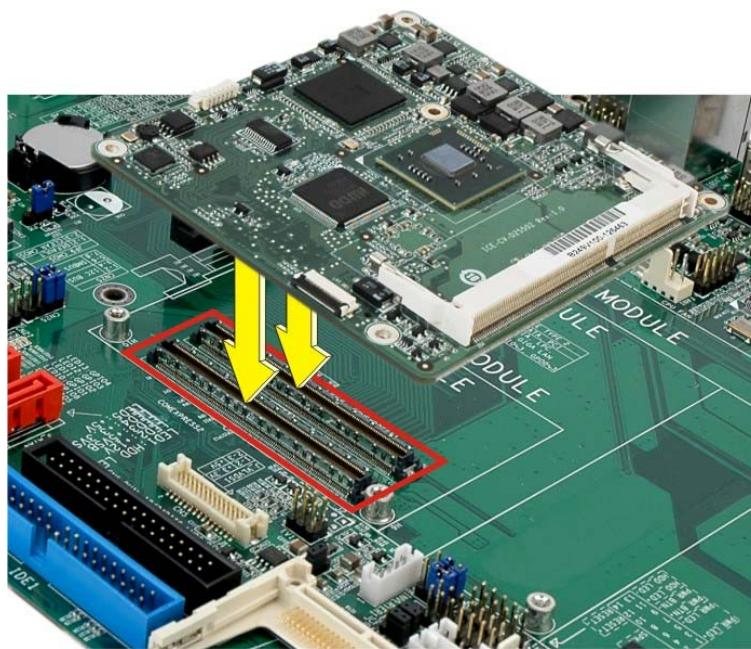

Figure 4-2: Connect the COM Express Connectors
Step 1: Align the two COM Express connectors on the reverse side of ICE-CV-D25502/N26002 with the corresponding connectors on the baseboard. Gently push the COM Express module down to ensure the connectors are properly connected (**Figure 4-2**).